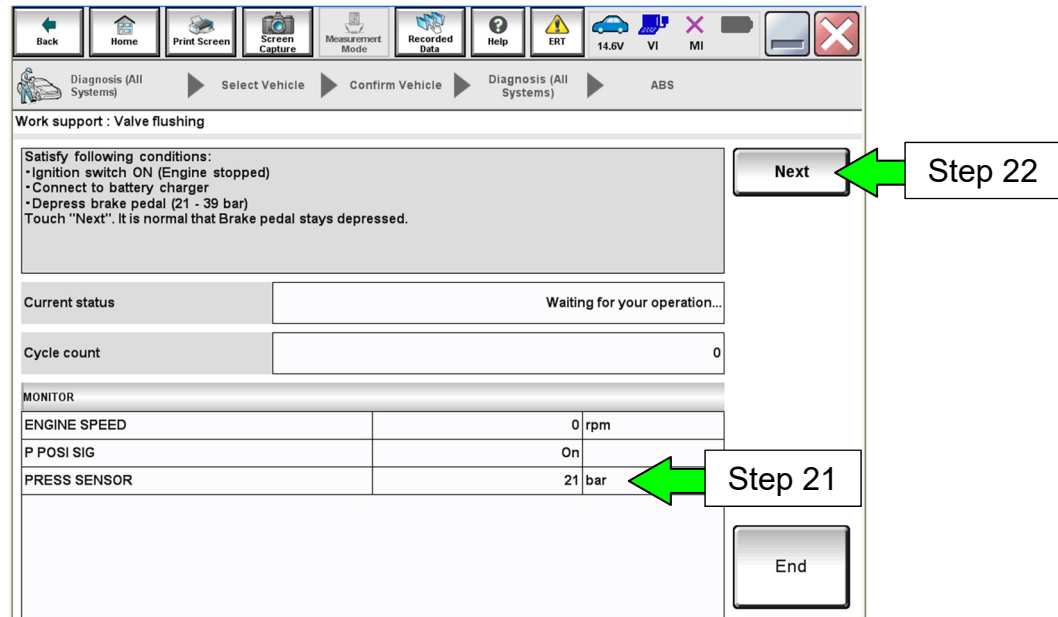

Figure 10
21. Press the brake pedal to raise the brake pressure to 21-39 bar (Figure 10).